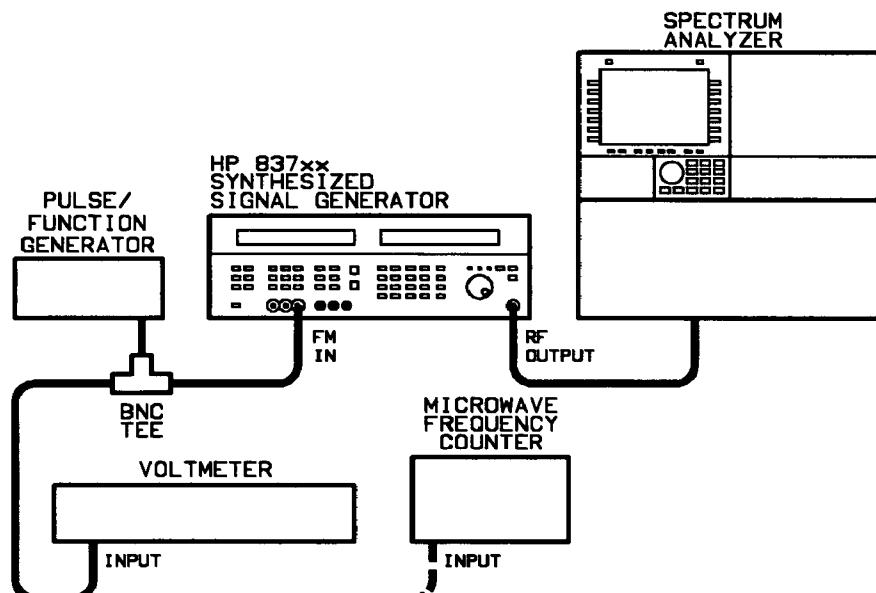

Figure 3-22. FM Rate and Flatness Test Setup
1. Connect the equipment as shown in Figure 3-22.